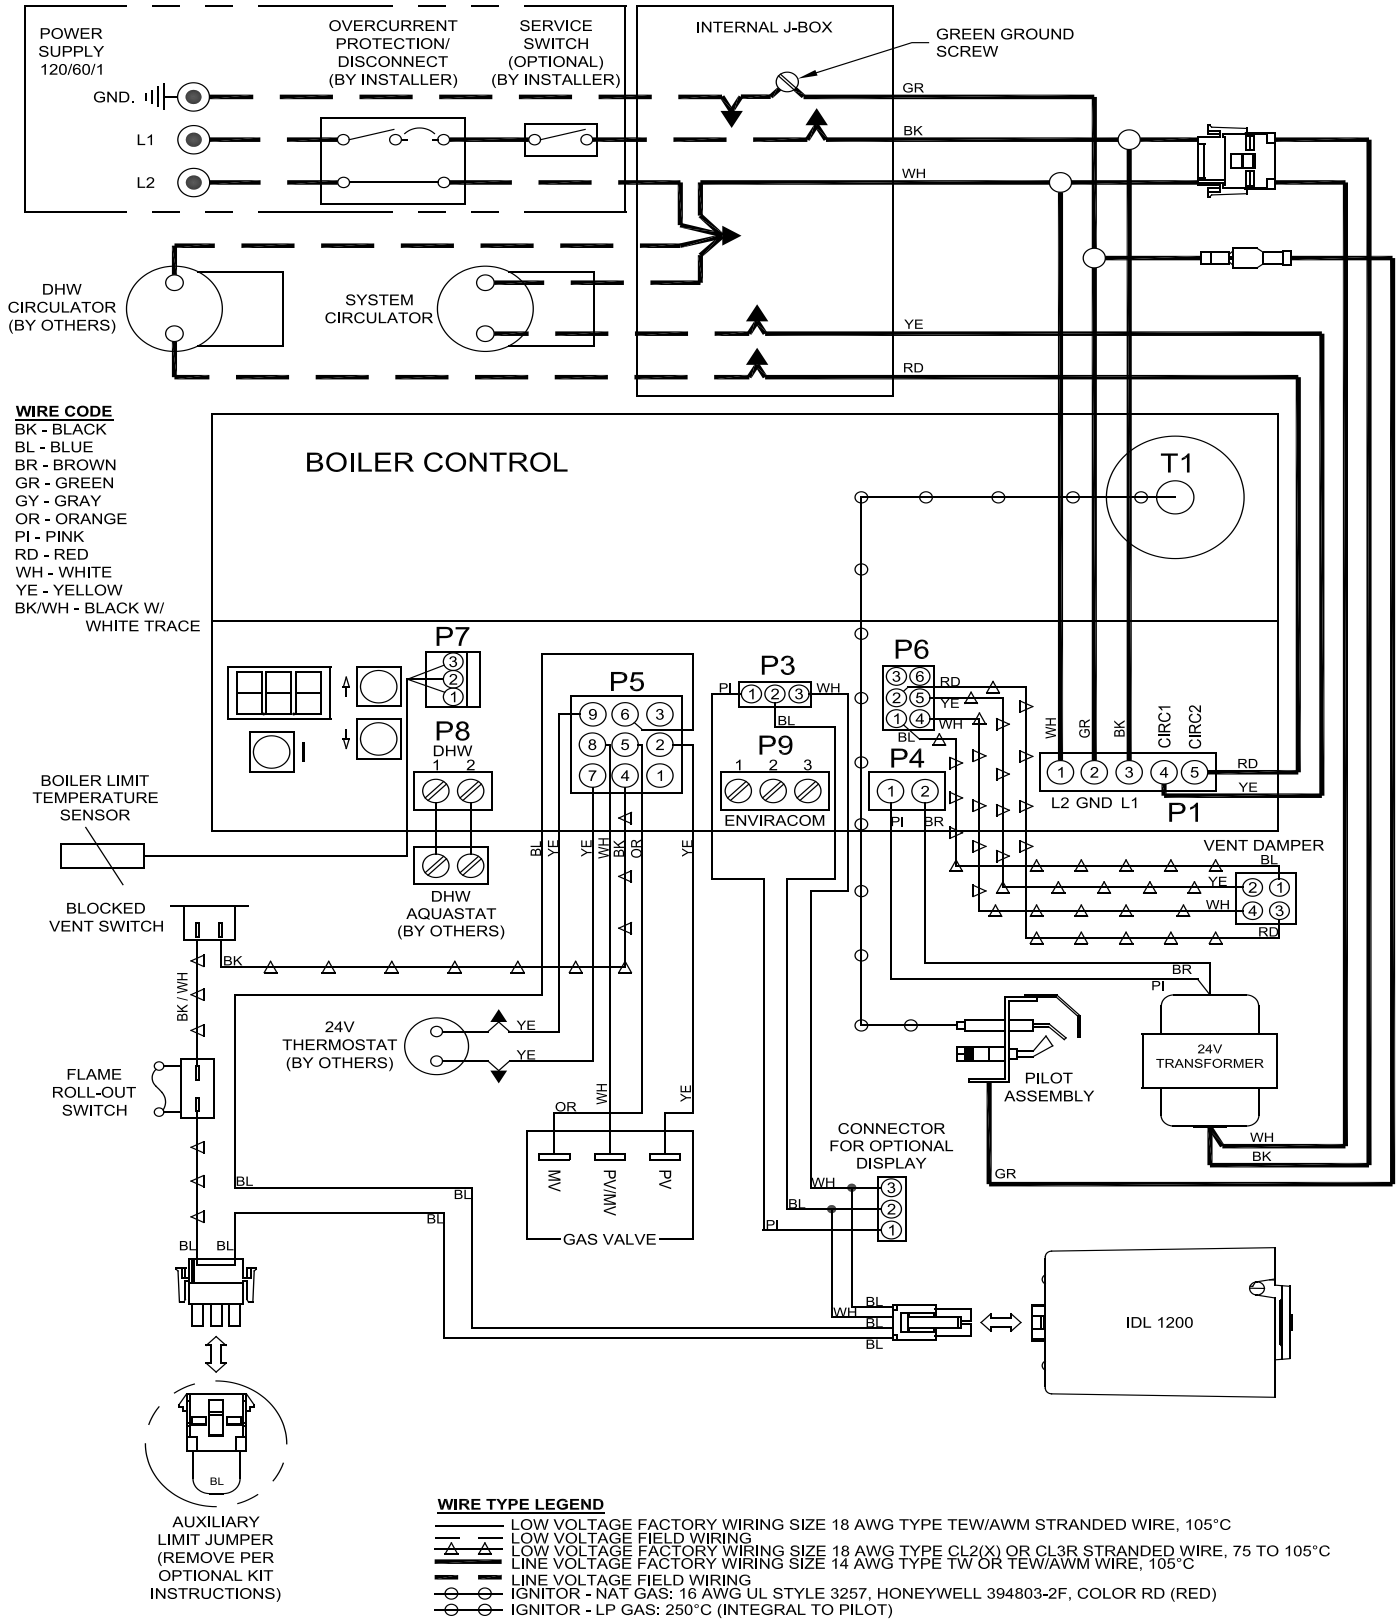

Figure 8-1: Wiring Connection Diagram
- C. Wire boiler. Boiler is rated for 120 VAC, 60 HZ, less than 12 A. A separate electrical circuit must be run from the main electrical service with an over-current device/disconnect in the circuit. A service switch is recommended and may be required by some local jurisdictions. Connect to black and white wires and green ground screw. See Figures 8-1 and 8-2.